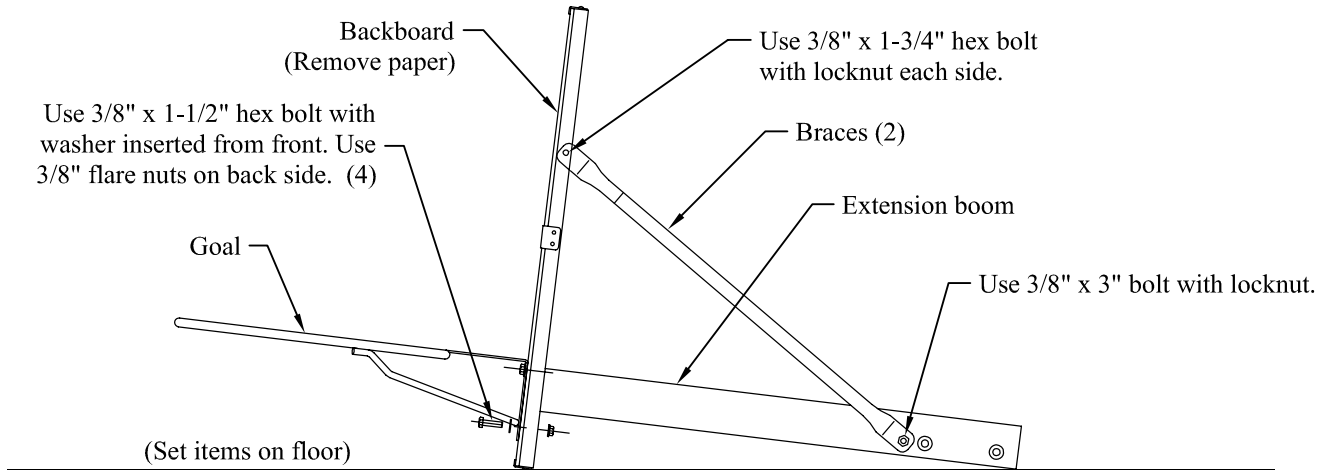

Figure 6.
*NOTE: Since goal, backboard and boom are connected with the same four bolts, it is suggested to pre-assemble all items on the floor as shown. Follow all notes in fig. 6 Leave bolts snug till step 5.